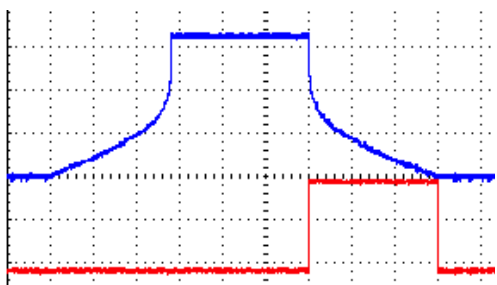

Figure 10a: End-of-Rise (EOR) Gate aka "Is Falling"
- End-of-Rise outputs a gate that goes high when the fall segment begins, and goes low when the envelope completes. It is low during a sustain segment. The jack will stay low when the envelope is not running. Another name for this jack might be "Envelope is Falling". System Mode selects whether it outputs gates or triggers. See *Figures 10a and 10b*.